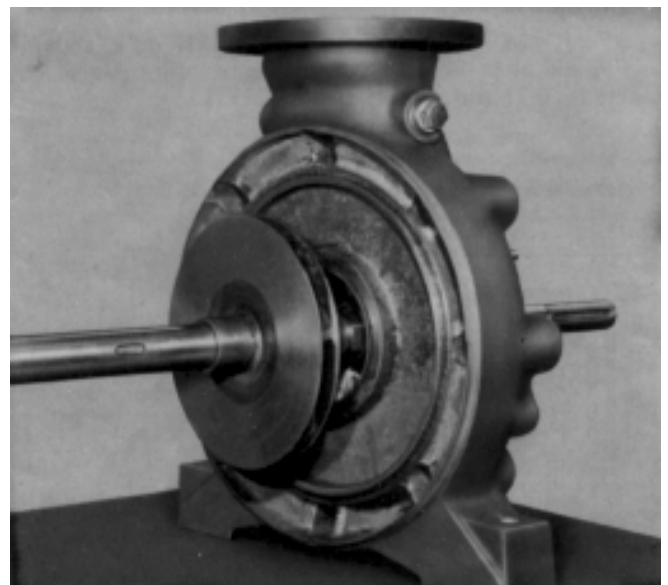

Fig. 50 Shaft with first stage impeller inserted into suction casing.
3. Insert shaft (210) together with spacer sleeve (525.1) and impeller (230) into suction (106). (see Figs. 50 and 51)